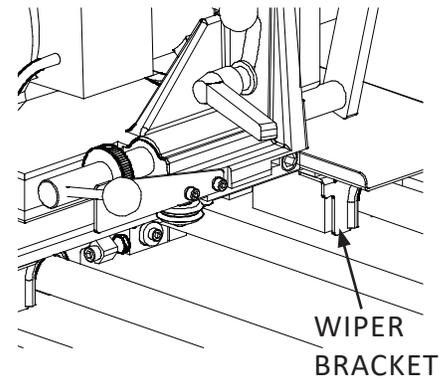

FIG. 1
1. Remove the two rail wiper brackets from the bearings located toward the tooling bar (two screws each). See Figs. 1 & 2.